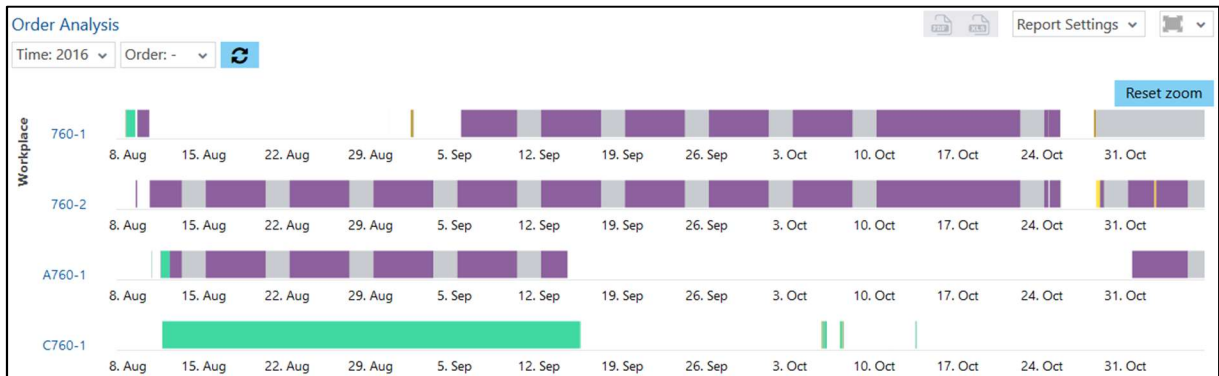

Fig. 129: Order Analysis as a timeline chart
- Order Analysis as a timeline chart (Fig. 129):